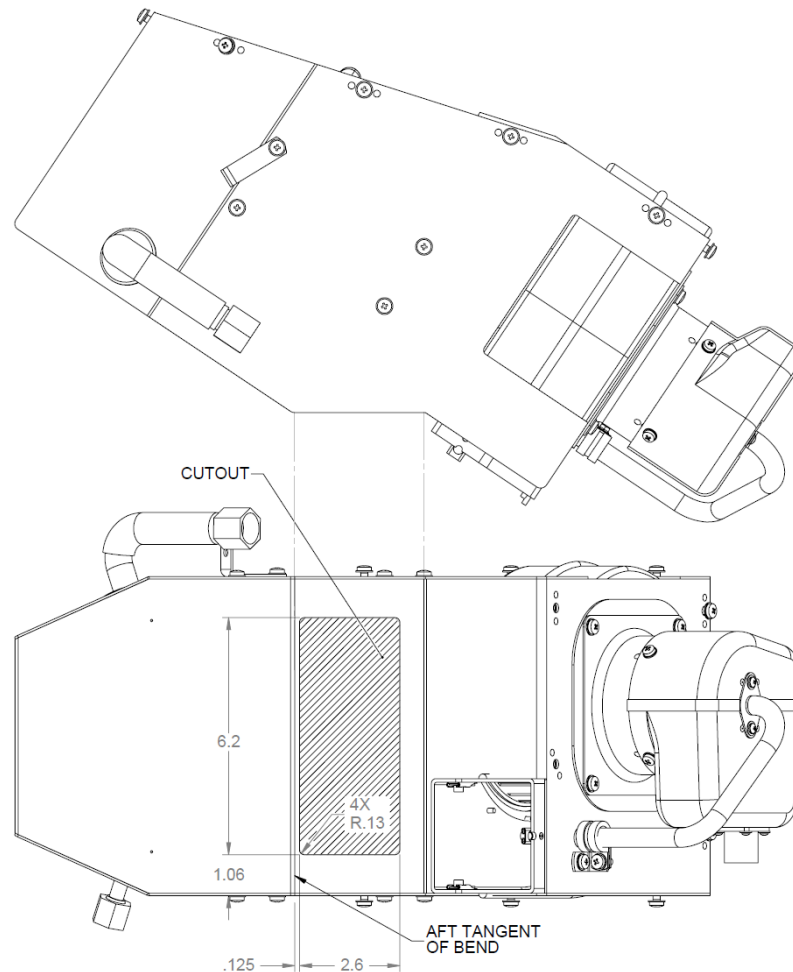

Figure 8: Water Sump Cutout Dimensions
- 5) Using water sump cutout dimensions, mark cutout on the bottom of the evaporator enclosure. Carefully cut and remove cutout area on enclosure bottom. (Figure 8)